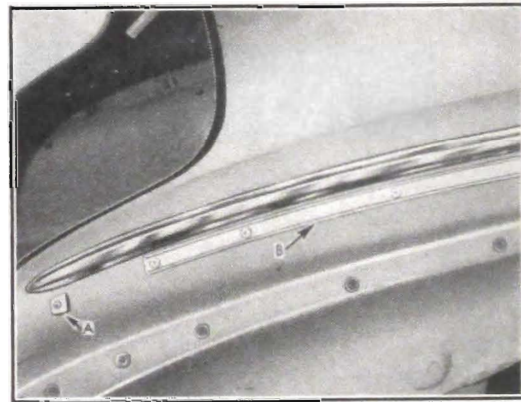
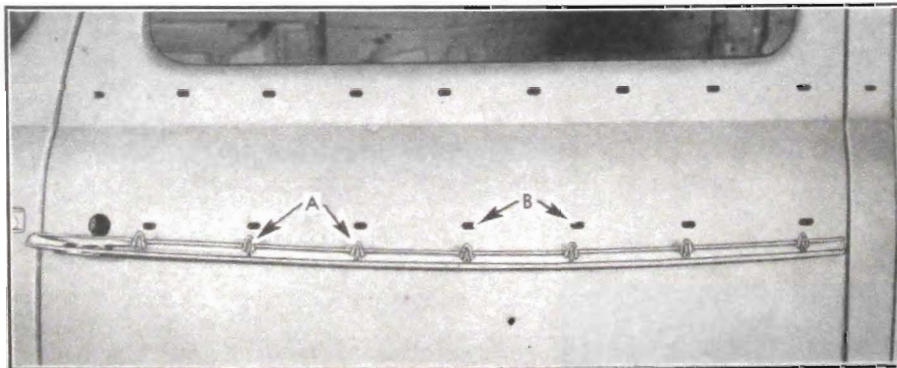

Fig. 1-72. Rear Quarter Belt Molding and Retainer
Fig. 1-71. Belt Molding Removal and Replacement
NOTE: Belt and crease moldings are held to door panels with clips "A", Fig. 1-71, similar to 1941. Belt moldings on the quarter panel, however, are held with a retainer "B" as shown in Fig. 1-72.
- 1. Place clips in molding and space properly so that they line up with the clip holes "B" on door panel. (See Fig. 1-71.)
- 1. Through the compartment opening at the rear, loosen the side wall trim sufficiently to remove the nut and washer, see "A", Fig. 1-72, holding rear end of belt molding to quarter panel.
- 1. Slide the washer and bolt "A", Fig. 1-72, in groove of molding and after spacing properly to coincide with bolt hole in rear quarter panel seal both bolt and hole with compound FS 638.